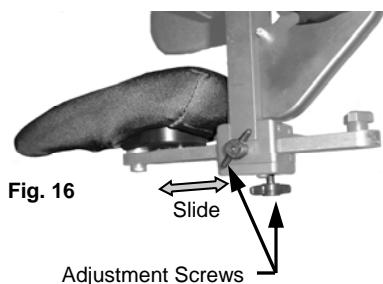

Fig. 16
- If it is necessary to alter the depth of the seat, loosen the two adjustment screws (fig. 16). Slide the seat forward or rearward as required and re-tighten screws.